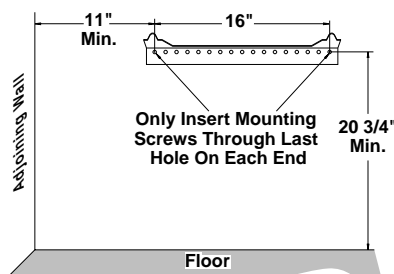

Figure 13 - Mounting Bracket Clearances
Maintain minimum clearances shown in Figure 13. If you can, provide greater clearances from floor and joining wall.
- 2. Mark screw locations on wall (see Figure 13).